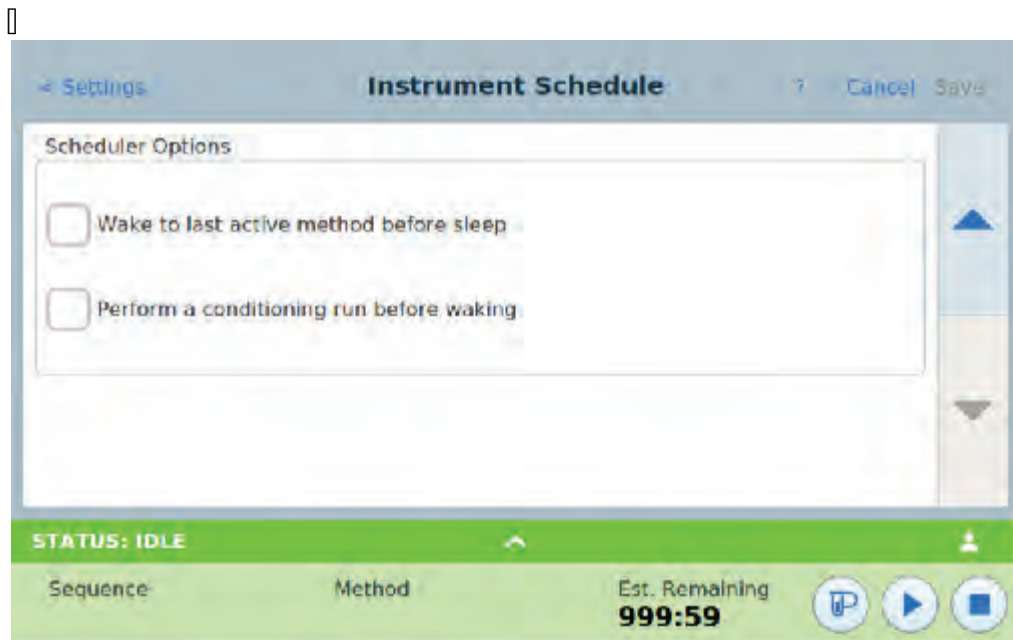

Figure 69. [Scheduler Options area]
- 3 [[Scroll to the Scheduler Options area. See **Figure 69**].]]